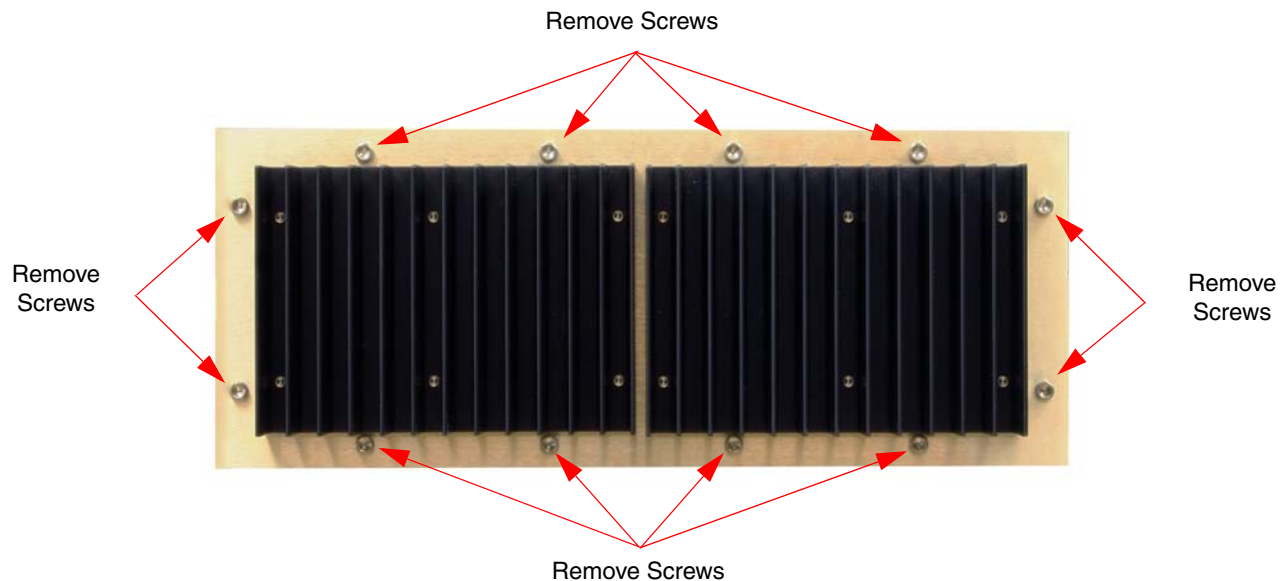

Figure 26: Remove mounting screws to detach power supply from cabinet.
- 5) Remove the 12 hold down screws (5/32" hex head) that hold the power supply assembly to the cabinet. The screw heads are accessible from the heatsink side of the assembly. Refer to **Figure 26**.